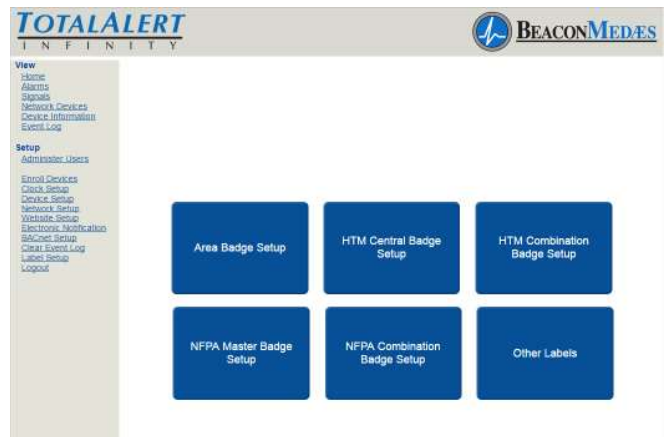

Figure 246
16. To save, select “Save High Alarm Instructions” button. Touch the Back button to return to the main label screen. (See Figure 246)